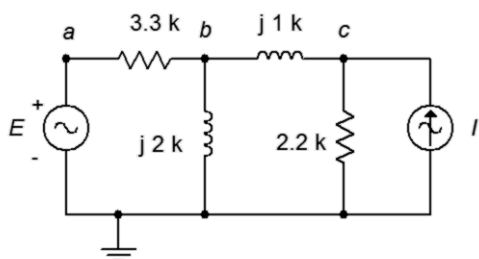

Figure 5.12
23. Use Superposition to determine the current of source E in the circuit of Figure 5.12. $E = 40\angle 180^\circ$ and $I = 20E-3\angle 0^\circ$.
24. Use Superposition to determine v_{ac} in the circuit of Figure 5.12. $E = 28\angle 0^\circ$ and $I = 8E-3\angle -180^\circ$.